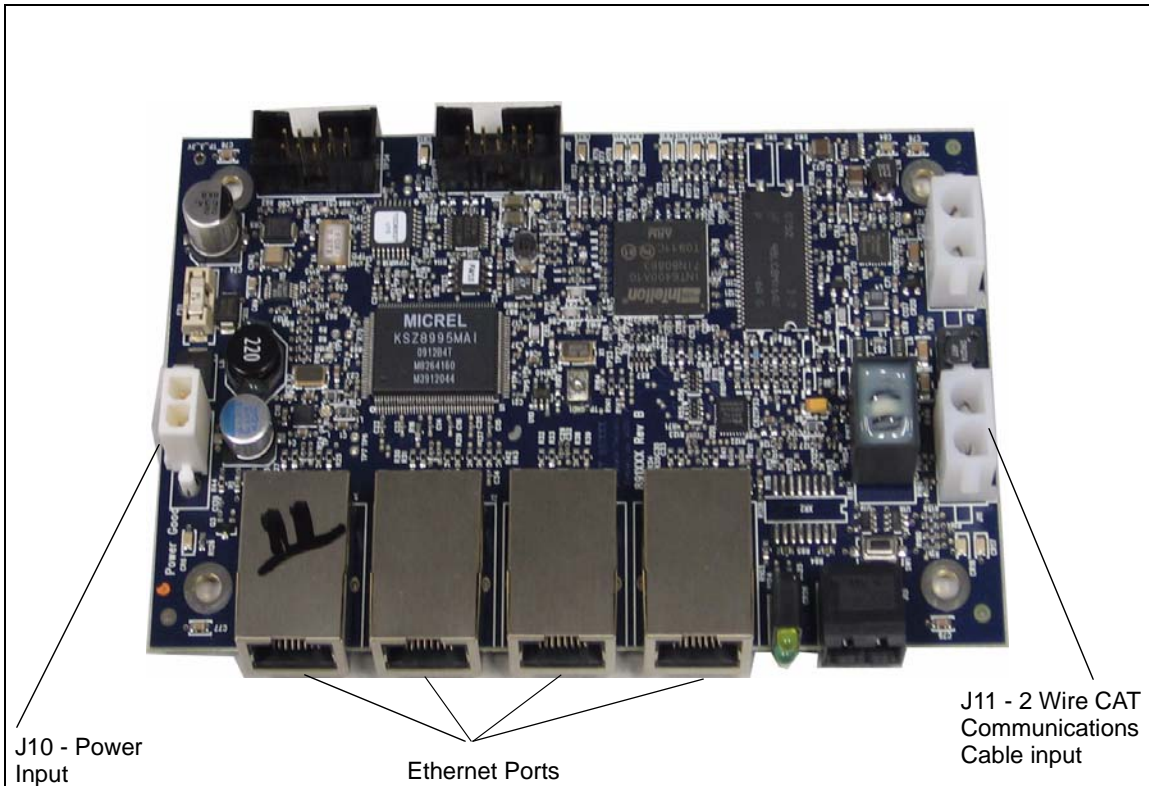

Figure 7 FusionNet Pump Board
2. Plug the existing CAT communications cable into J11 of the FusionNet pump board. Re-install the ethernet cables into the FusionNet pump board that were removed earlier. See Figure 7.